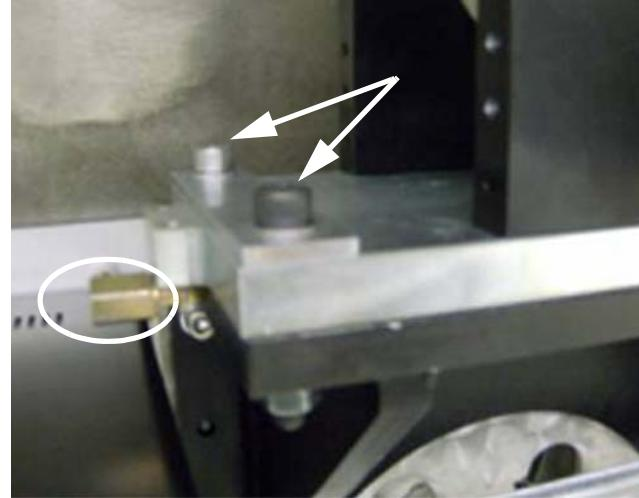

Figure 7-98
- 3.) If the tube needs adjustment, first take the freeplay out of the adjusting screw and shift the tube by the required number of turns. To make the adjustment, refer to Figure 7-98. Loosen four M10 bolts (two shown by arrows). Adjust the set screw as needed (circled), then tighten bolts to 340 in.-lb.